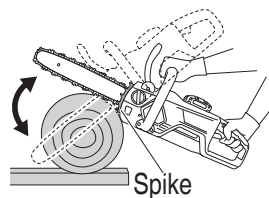

Fig. 22
- (3) When sawing a thick piece of wood, press the spike on the front section of the unit against the wood and cut it with a lever action while using the spike as a fulcrum as shown in **Fig. 22**.